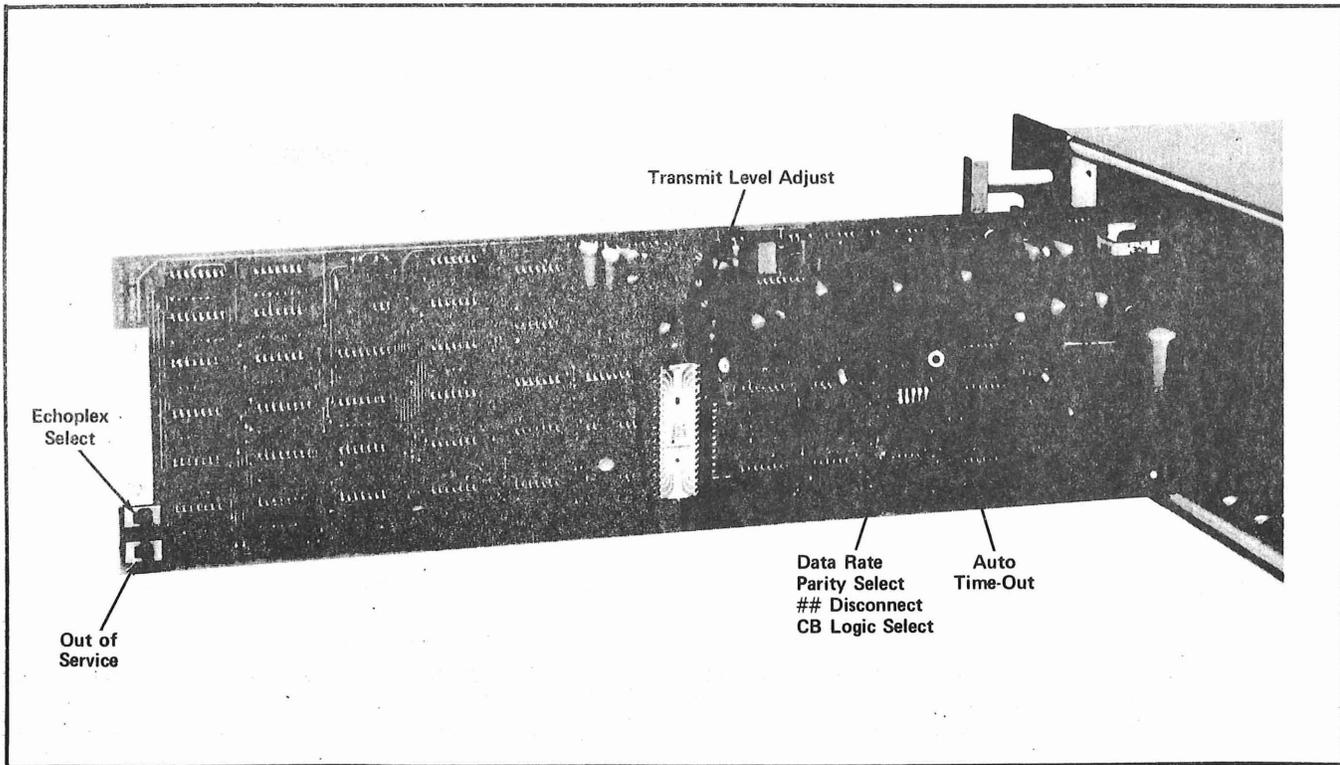

Figure 4-1. Modem Channel Board
4.05 Optional operating modes are selected for each channel by setting switches on the channel board. Refer to table 4-4, figures 4-1 and 4-2. Removal of the channel board from the shelf is required for setting most options.